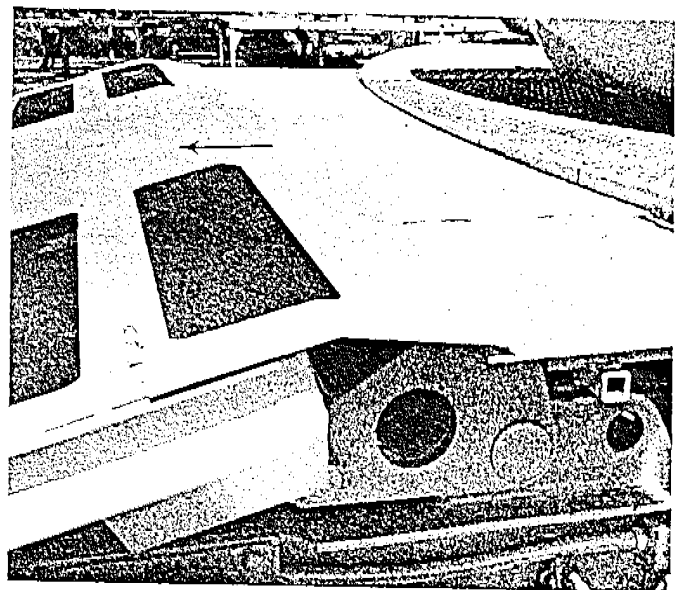

Fig. 25
e. In storage, the hinged plate rests on top of the gooseneck ramp. For operation, fold the hinged plate over to rest on the bridge. (Fig. 25)